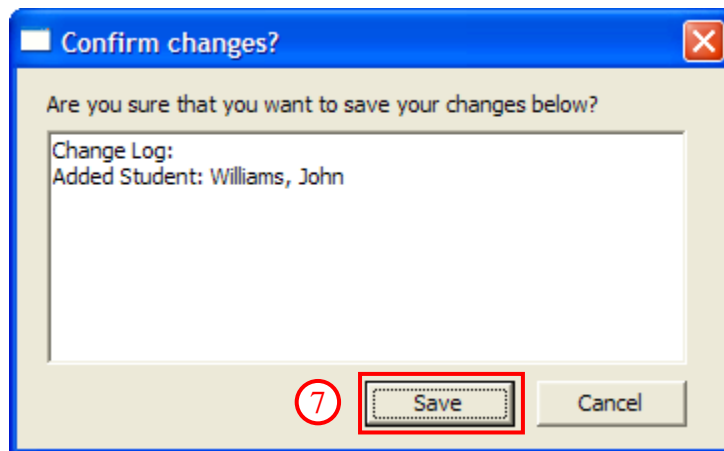

Figure 50. Confirm Additions/Changes Dialog
7. A prompt is displayed detailing the addition/changes (Figure 50).